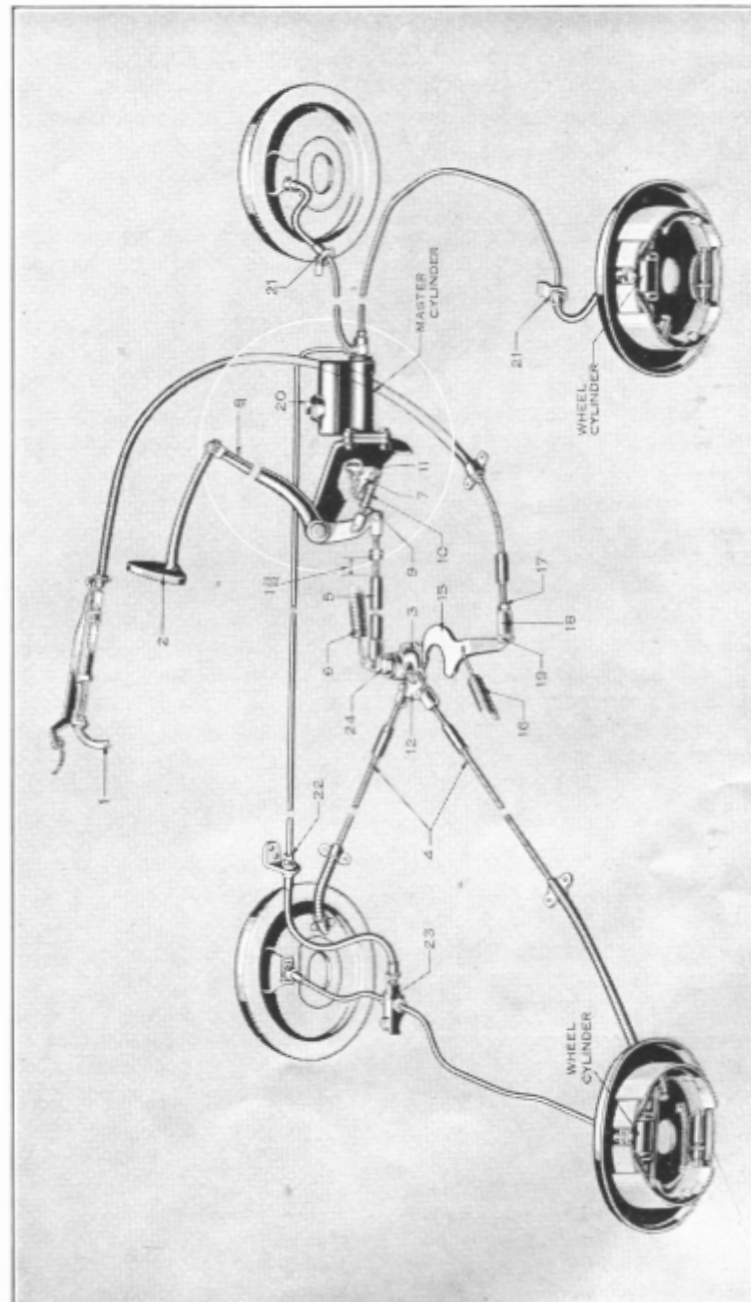

Figure 23
The Hudson brakes are hydraulically operated with supplementary mechanical actuation of the rear brake shoes from both the foot pedal and the hand brake control, Figure 23.
The reservoir should be kept at least half full at all times. Before removing the filler plug (20), Figure 23, wipe all parts free of dirt and take extreme care to prevent dirt getting into the cylinder.
The piston in the master cylinder is operated through the lever (7) and connecting link (10) from the brake pedal (8), Figure 23. In order to insure full return of the piston when the brake is released there must be $\frac{1}{4}$ " clearance between the pedal (8) and the floor board. This clearance is obtained by loosening lock nut (9), removing clevis pin (11) and turning connecting link (10) to increase length until clevis pin (11) just enters the rod with the pedal shank (8) $\frac{1}{4}$ " from the toe board and the bell crank against its stop. Reinsert clevis pin (11) in bottom of bell crank, insert cotter key and tighten lock nut (9). This adjustment is important as failure of the piston to return to the end of the cylinder will cause the brakes to drag.
With equalizer bar cable plate against stop, loosen brake pedal push rod lock nut, Figure 23, and turn adjusting nut until rear face is $1\frac{3}{4}$ inches from front end of push rod (5). Tighten lock nut. This adjustment is important to obtain proper mechanical follow-up to the hydraulic operation of the rear brakes.
(4) Spread the brake shoes by means of a screwdriver inserted through the hole (C) engaging the notched adjusting screw until the shoes are expanded against the brake drum so drum can just be turned by hand.
(5) Pull hand brake lever until equalizer bar cable plate is $\frac{1}{8}$ inch from stop, Figure 23.
(6) Pull rear brake cables tight and adjust ends so clevis pins just enter holes in cross shaft levers or equalizer bar (12), Figure 23. The rear face of the equalizer plate must be parallel to the face of the stop after this adjustment is made.
(7) Release hand brake.
(8) Release adjusting screw at each wheel until the brakes are just free of drag and replace feeler gauge hole covers and wheels.
(9) Lower car and test for balance on brake testing machine or road. Always loosen adjusting screw on tight brakes rather than tighten adjusting screw on loose brake to get balance. This is to safeguard against one or more dragging brakes.